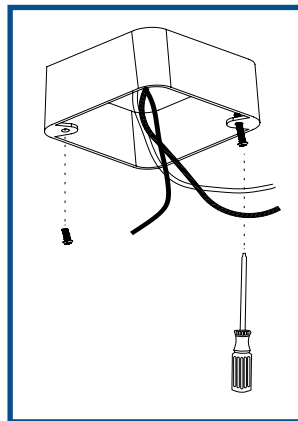

FIG. 1
2. Drive the screws into the Junction Box, with 2/3 inside and 1/3 outside. (FIG. 1)